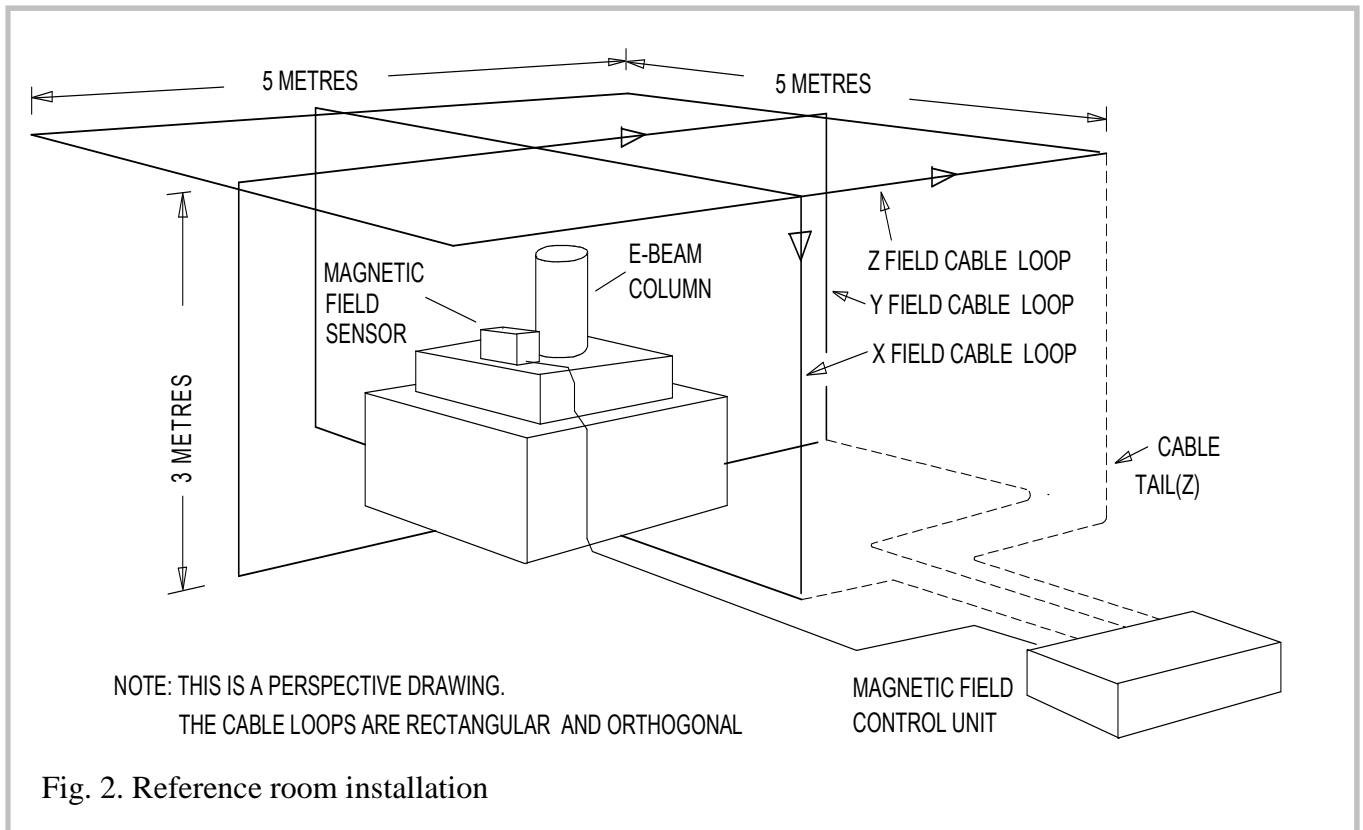

Fig. 2. Reference room installation
To specify the SC20 performance more rigorously, we use a reference cable installation geometry. This is shown in Fig. 2. The electron beam column is centred in the 3m x 5m X and Y loops (which cross over above and below the column) and the 5m x 5m Z loop. The SC20 specifications on page 5 apply to this reference room installation.
Dynamic range (X & Y)	80 mG (8 μ T) pk-pk (installation Fig. 2)
Dynamic range (Z)	60 mG (6 μ T) pk-pk (installation Fig. 2)
Dynamic range (X & Y)	± 40 mG (± 4 μ T) incremental, (installation Fig. 2)
Dynamic range (X & Y)	± 30 mG (± 3 μ T) incremental, (installation Fig. 2)